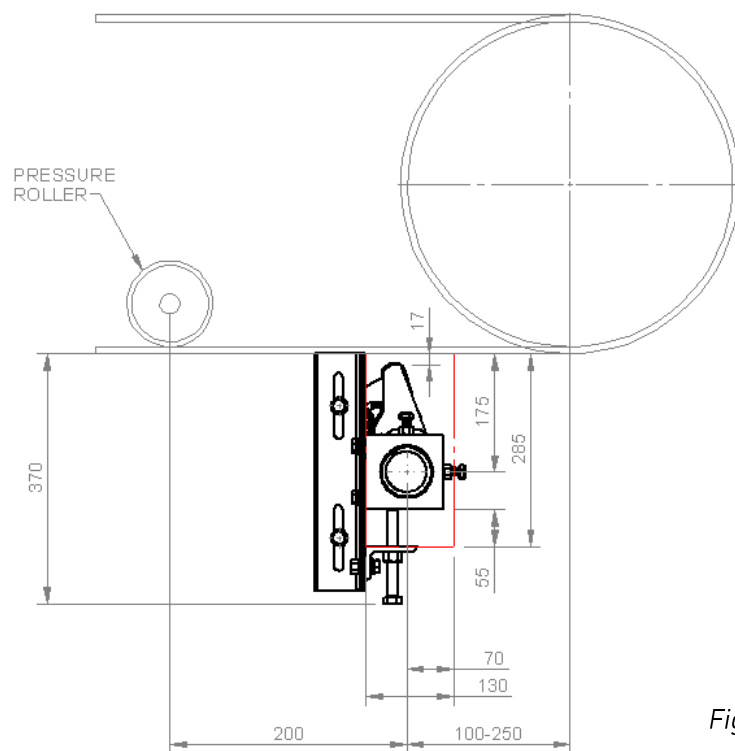

Fig 2
- 1- The ideal position for the MUS2 Secondary Cleaner is 100mm to 250mm behind the tangent point where the conveyor belt leaves the pulley (the tangent point) refer to fig 2.